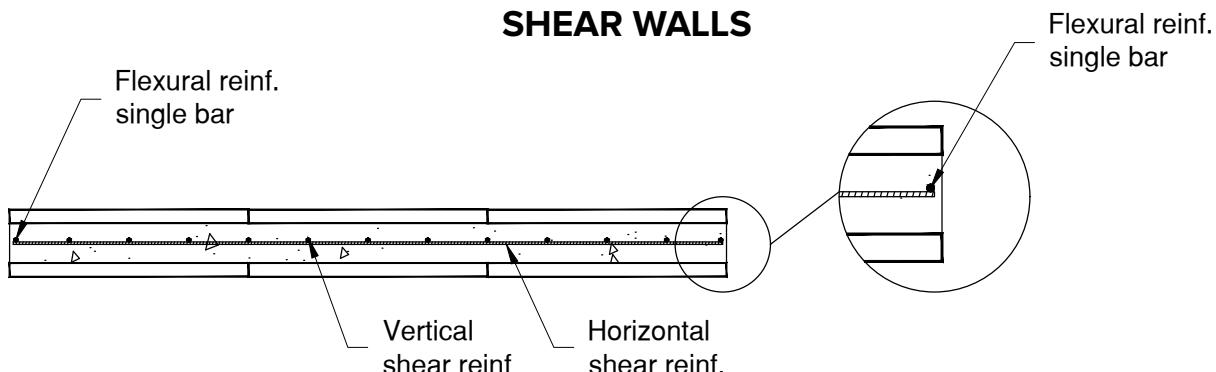

FIGURE 6: PLAN VIEW
1. Shear wall Figures 6 to 8 to be used in conjunction with Tables 6A and 6B.